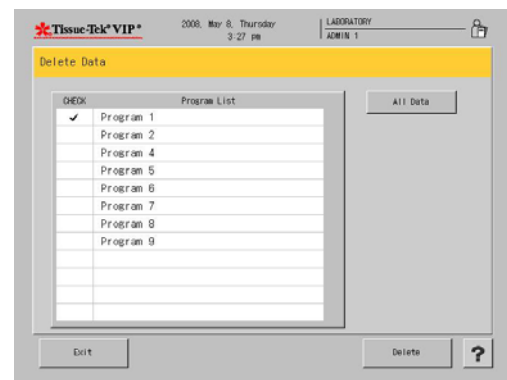

Figure 3-OOO
- A Confirmation dialog box displays (Figure 3-OOO).